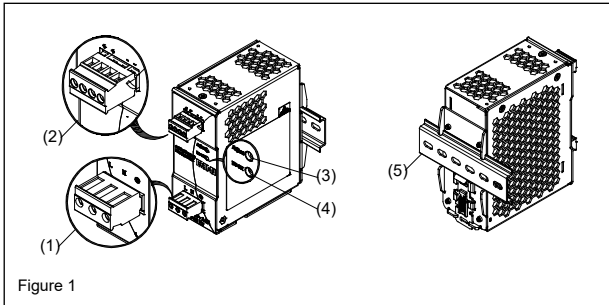
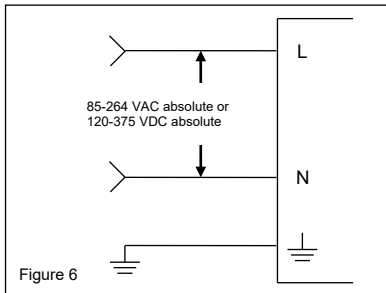

Figure 1
Figure 6
2. Device description (Fig. 1)
5.1. Input connection (Fig. 1 (1), Fig. 6)
For AC input connections, use L, N and PE connections of input terminal connector (see Fig. 1 (1)) to establish the 100-240 VAC connection.
5.2. Output connection (Fig. 1 (2))
Use the "+" and "-" screw connections to establish the 24 VDC connection. The output provides 24 VDC. The output voltage can be adjusted from 24 to 28 VDC on the potentiometer. The green LED DC OK displays correct function of the output (Fig. 1 (4)). The device has a short circuit and overload protection and an overvoltage protection limited to 35 VDC.